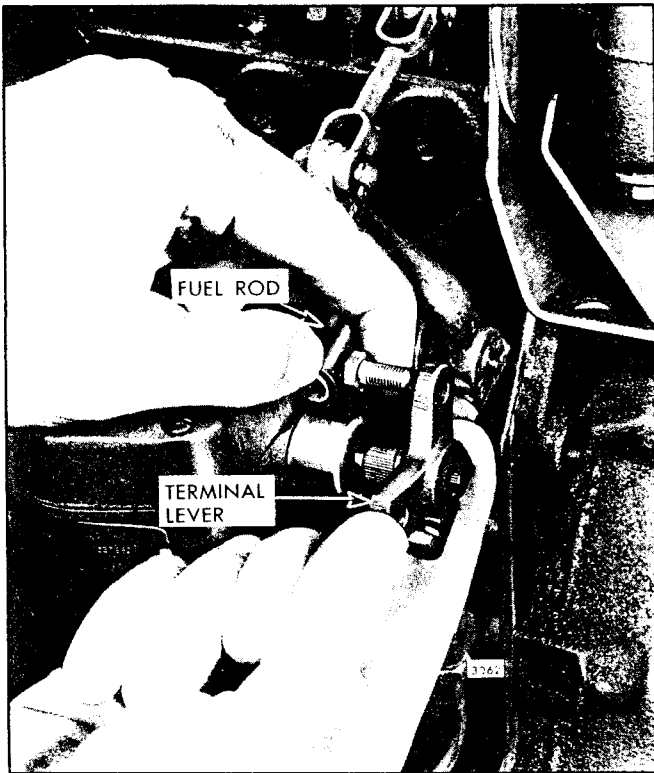

Fig. 3 - Adjusting Length of Fuel Rod
5. Hold the injector rack control tube and the terminal lever in the full-fuel position and adjust the length of the fuel rod until the end bearing or ball joint will slide freely into the hole of the terminal lever as shown in Fig. 3. Tighten the lock nut, to retain the ball joint or end bearing, and the terminal lever clamping bolt securely.